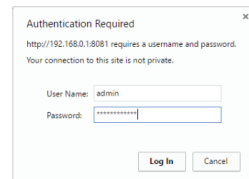

Figure 10: xPicoWiFi Login Dialog Box
6. A dialog box will appear. Type "admin" in lower case in the User Name box and the full MAC/Serial # without dashes (e.g. 0080A3AB01C8) in the Password box. Click on Log In button. See Figure 10.